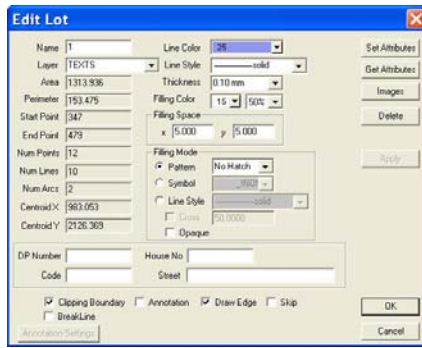

Figure 13-96. Edit Lot Dialog Box Used to Allocate a Lot Number and Other Parameters
3. Click **Yes**. See also “Convert Polygon to a Lot” on page 13-84. The *Edit Lot* dialog box appears (Figure 13-96).
Click **Yes**, and the *Edit Lot* dialog box appears (see Figure 13-96 on page 13-82).